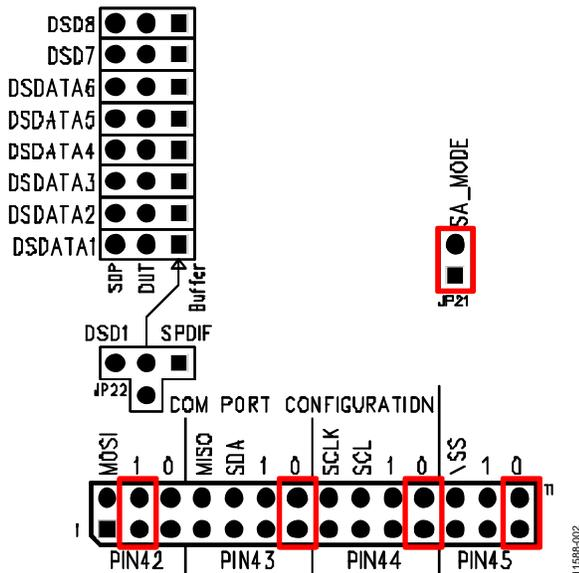

Figure 2. SA\_MODE—Slave,  $256 \times f_s$ , I2S
The ADAU196xA has a standalone mode, which allows the user to choose between a limited number of operation modes without the need for a control interface. Applying a jumper across JP21, as shown in Figure 2, pulls SA\_MODE (Pin 46) high enabling standalone mode in the ADAU196xA. The SA\_MODE selections are listed in Table 1.
The EVAL-ADAU196xAZ arrives configured for S/PDIF input. The S/PDIF receiver operates as a clock master, putting out an I2S stream at  $256 \times f_s$ . For quick startup, the ADAU196xA is in standalone mode with the settings shown in Figure 2.
Pin 42 is pulled high (1) and Pin 43 to Pin 45 are pulled low (0). According to Table 1, this puts the ADAU196xA in slave mode, running at  $256 \times f_s$ , and the audio serial port in I2S mode. Looking at Figure 2, notice that the jumper for Pin 42 is beneath the label for 1 and the other pins are assigned to 0.